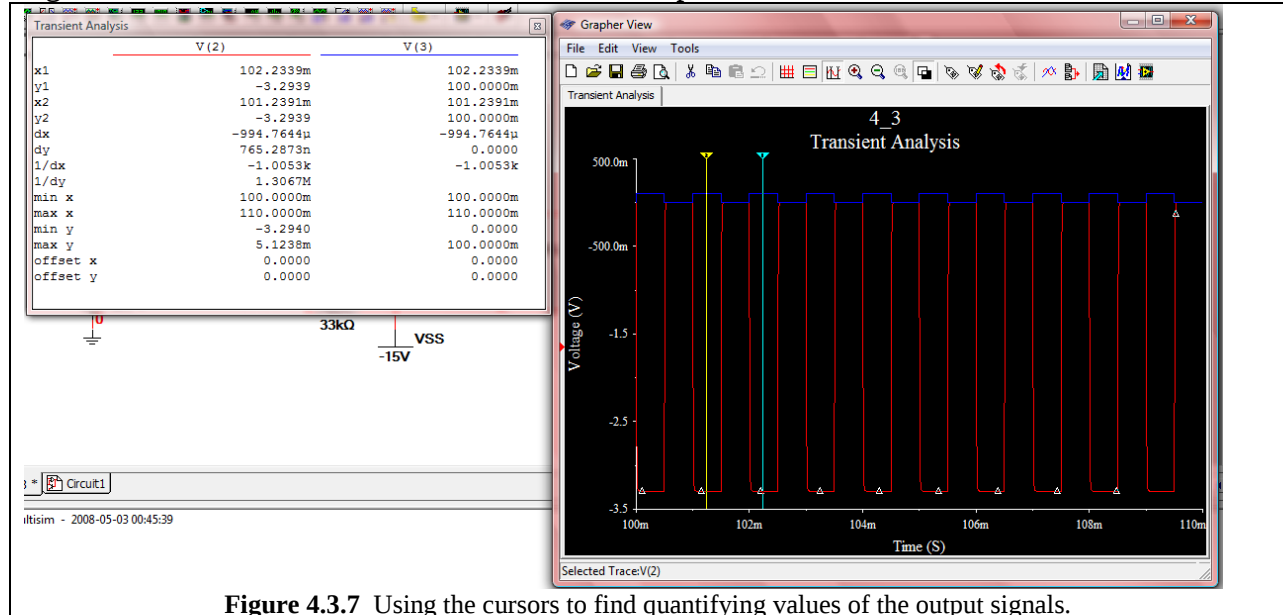

Figure 4.3.7 Using the cursors to find quantifying values of the output signals.
In the cursor window, x1 refers to the x-axis location of cursor 1 and y1 refers to the y-axis location of cursor 1. Thus in Fig. 4.3.7 under the V(2) heading, x1 is telling us that the cursor1 is located at 102.233 ms and y1 is telling us that the value of V(2) at that point in time is -3.2939 V.
As shown in Fig. 4.3.7, the cursors reveal that when the input signal V(3) is 100 mV, the output signal is -3.293 V, which corresponds to a gain of about -33, which is exactly what we should
Now a question which may have popped into your mind is why even bother with the 5-terminal op amp? Well the reason is that it has built in non-idealities. We will now investigate the finite time it takes the amplifier to respond to the input signal. In Fig. 4.3.7, it seems as if the output responds immediately to any change in input. If we shrink the time span of our Transient Analysis, we can zoom in around an edge of the pulse to get a better view of the response.